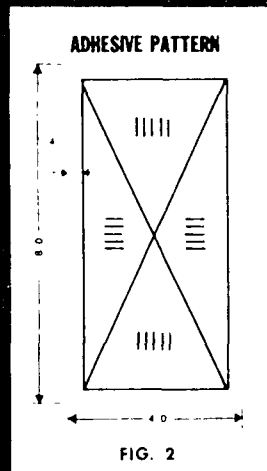
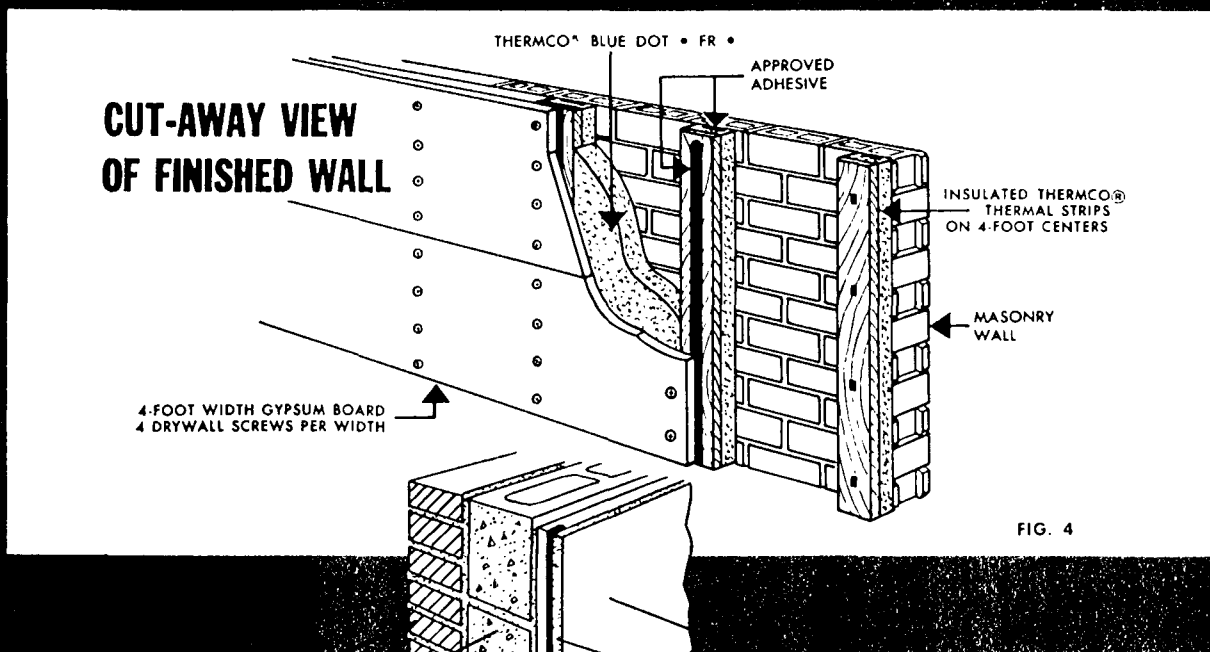

FIG. 2
FIG. 4
2. The wall board is precut (if necessary) and an adhesive bead is applied according to adhesive instructions and specifications. (See Figure 2).
2. Black Stuff is then applied to proper size sheet of THERMCO® Insulation in the following manner. A 1/4" bead is extruded around the perimeter of the sheet. (See Figure 2). A 1/4" bead is extruded diagonally in an X pattern from one corner to the other. Four 1/4" beads, 5" long, of Black Stuff are put at random in the four triangles formed by the "X". Black Stuff is allowed to "tack up" for approximately five minutes and the sheet of THERMCO® pressed firmly in place on the wall and snugly between the THERMCO® Thermal Strips. NOTE: You can expect 392 lineal feet of 1/4" bead from one gallon of Black Stuff. 108.8 square feet of finished wall will be realized per gallon as per Figure 4. Do not use excessive amounts of Black Stuff to level irregular walls. More than a 1/4" bead can cause trapped solvents which may result in foam collapse.
3. Wall Board is applied by using both screws and adhesive. Apply Black Stuff in a 1/4" bead around perimeter and in an X pattern as outlined in Figure 2 to wallboard. Four 1/4" beads, five inches long, should be applied in each triangle formed by the X. Again, allow Black Stuff to tack up, then place wallboard sheet adhesive side to THERMCO® Insulated Wall in a horizontal position. Press firmly and screw as specified.